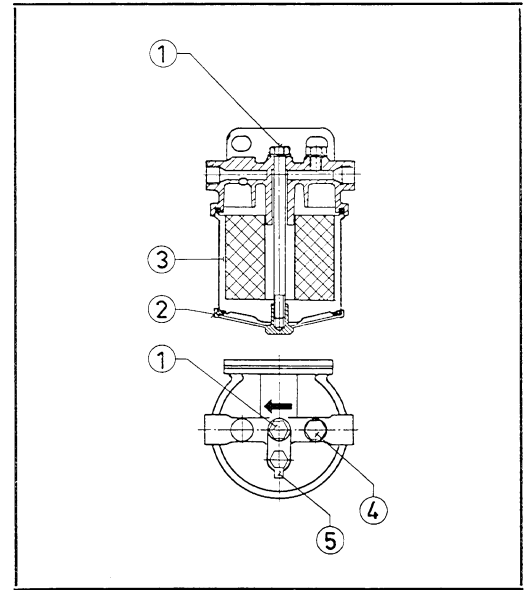

Fig. 16 Fuel filter
The fuel filter cartridge cannot be cleaned but has to be replaced. By slackening the retaining bolt, fig. 16, No. 1, cover (2) can be removed and the filter cartridge (3) replaced by a new one. For bleeding the fuel system, use screw (4). This must be bled each time the filter cartridge is changed to extract air from the system. Nipple (5) is for the return excess fuel from the injectors. Normally the filter should be replaced after about 300 hours' running. If dirty fuel is used then the filter cartridge will require changing more frequently.